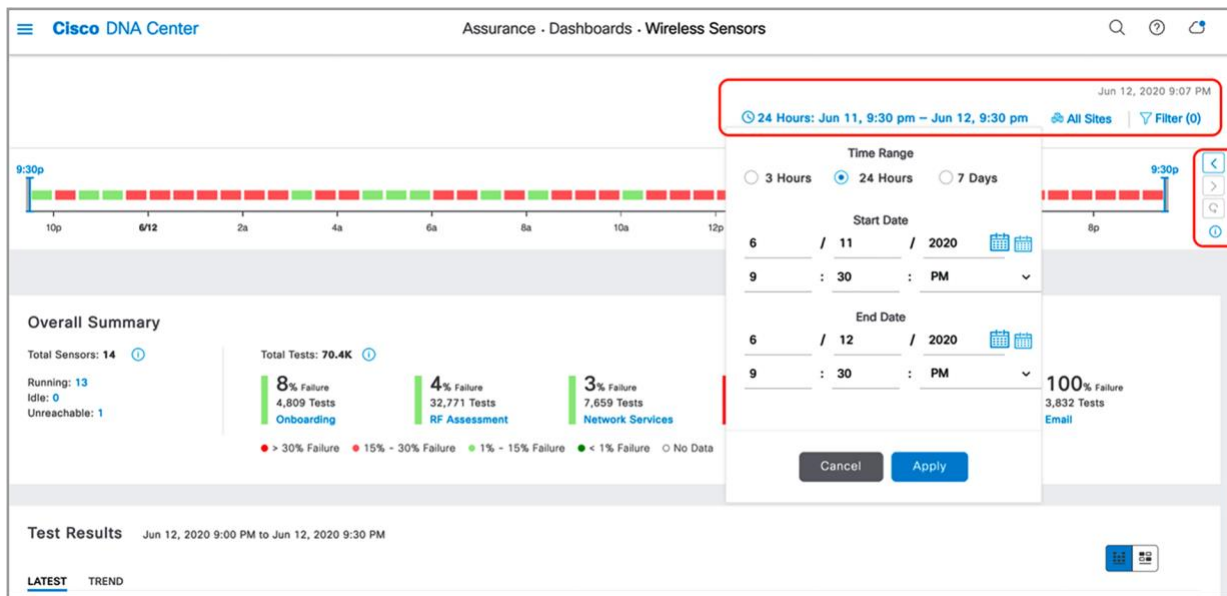

Figure 81.
- a. View the Wireless Sensors dashboard for test results a couple of minutes after the first round of testing has completed (**Figure 81.**)
- b. Optional SSID and band filter: To filter the Wireless Sensors dashboard to show only data for specific sites, click the Multiple Sites button in the top right corner of the screen, and select a site (**Figure 81.**)
- d. Optional network time travel: Like all Assurance pages on Cisco DNA Center, the Wireless Sensors dashboard provides users the ability to view data back in time for up to 14 days. You can do so either by clicking the date, which provides a drop-down menu that allows you to specify the date and time to view, or by clicking the left and right arrows to the right of the time bar (**Figure 81.**)